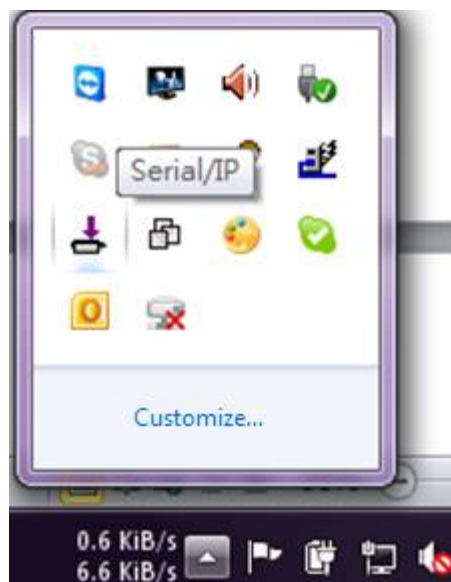

Figure 6.5 Serial/IP Tray Icon on Windows Notification Area
- 3) In the Windows notification area as shown in Figure 6.5, right click on the Serial/IP tray icon and click on Configure... menu to open the Serial/IP's Control Panel.